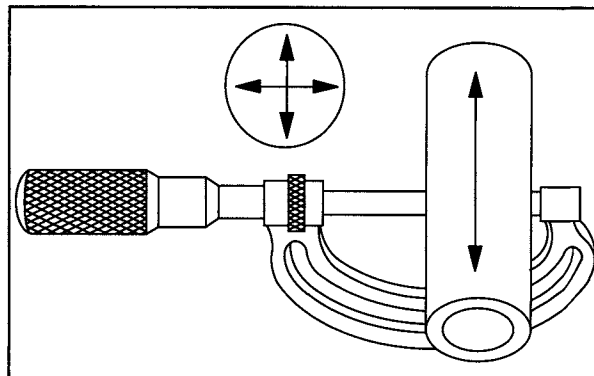

Fig. 6
1. Measure piston pin, Fig. 6. Replace pin if worn beyond reject dimension or 0.0005" (0.01 mm) out of round.